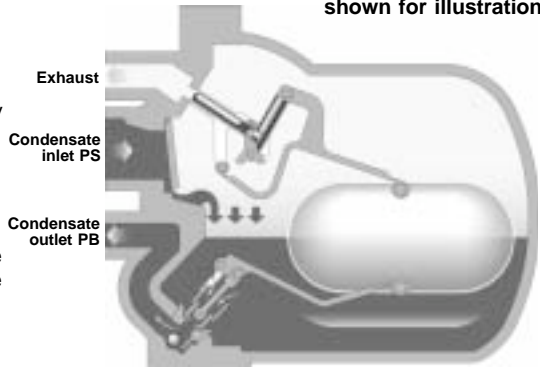

Fig. 6
Step 1 (Fig. 6)
The APT10-4.5 automatic pump trap operates on a positive displacement principle. Condensate enters the body through the inlet swing check valve causing the float to rise. The float is connected to the trap mechanism via a lever to pivot arrangement. If the upstream system pressure PS is sufficient to overcome the backpressure PB (Fig. 6), the build up of condensate will be discharged through the opening trap mechanism. In this way, the float will automatically modulate according to the rate of condensate entering the APT10-4.5, controlling the rate of opening and closure of the trap.